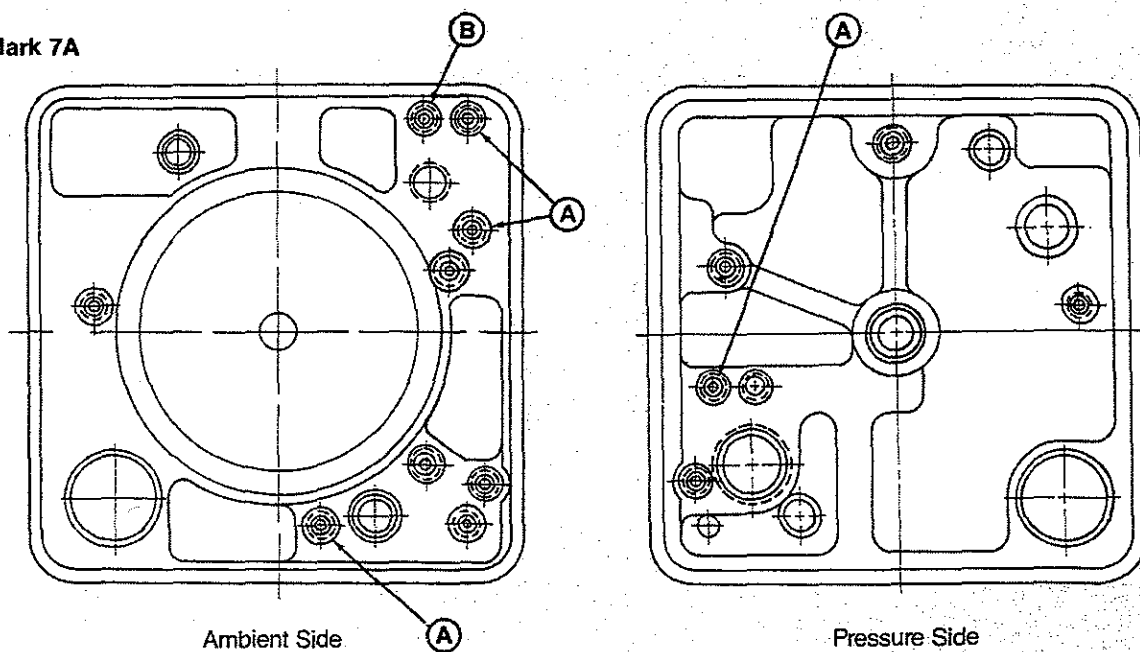

FIGURE 27
5.3 Place O-rings (P/N 5999) onto female quick-disconnect studs, and with a 5/16" nut driver or open end wrench, reinstall into Centerbody (Fig. 27).